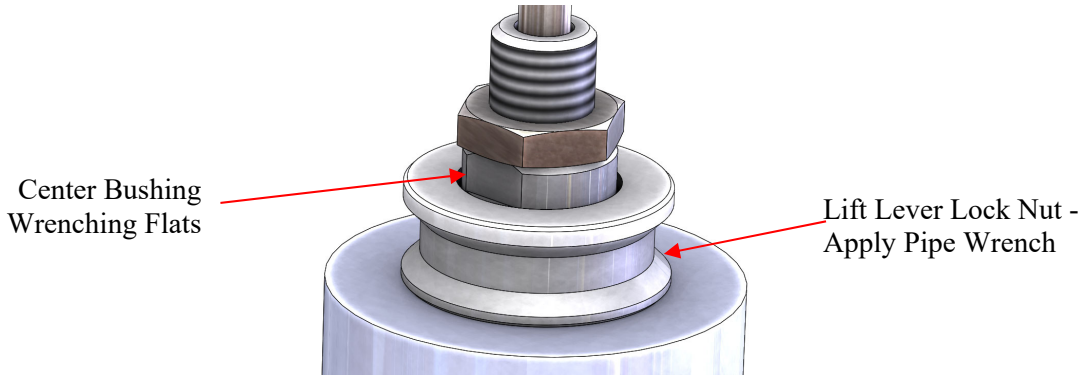

Figure 46: Lift Lever Lock Nut Removal
10. If necessary*, the lift lever lock nut may be removed by using a wrench on the flats of the center bushing and a pipe wrench on the lift lever lock nut. See Figure 46.